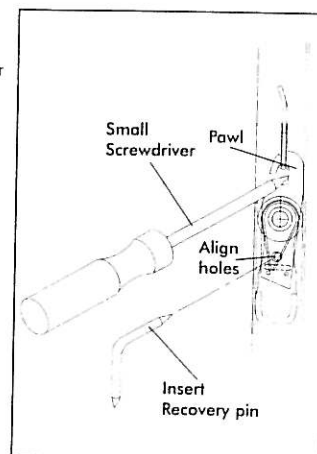

Fig 1
- The anti-drop pawl must then be locked in the disengaged position using the recovery pin supplied (see fig. 1) the recovery pin can be found with this booklet in the envelope fixed to the rear of the door.
- Use a small screwdriver to move the steel pawl so that the holes align (see fig. 1) then insert the recovery pin as shown.